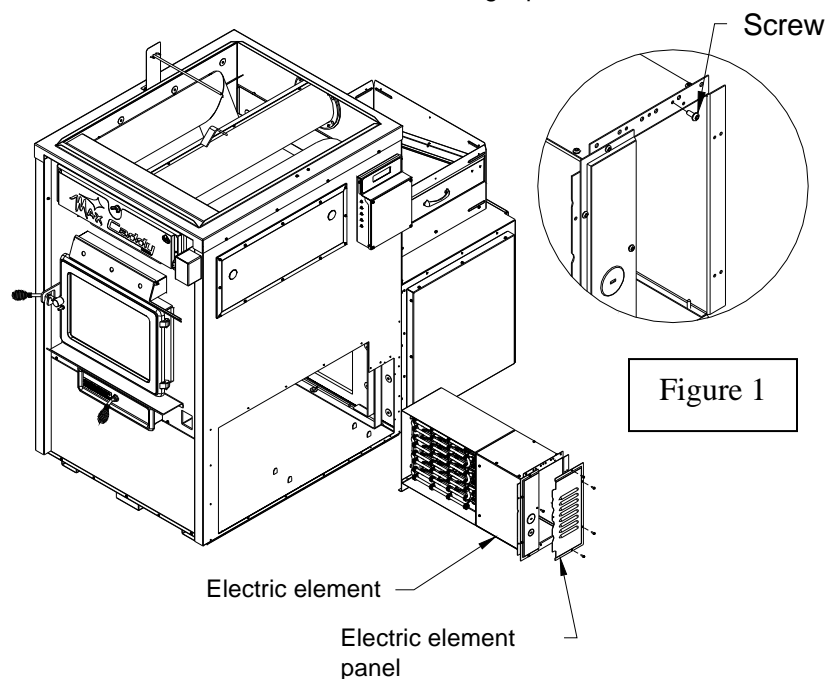

Figure 1
Step 2 : Remove the right panel of the electric element by unscrewing the 5 screws. Keep the screws. Unscrew the screw located at the top surround of the electric element housing (see figure 1). Keep this screw. You will need it for Step 5. Remove the thermostat located inside of the electric element housing. Before installing the housing inside the furnace, it is advised to do the wiring connections. In order to do so, you can remove one of the side panels of the electric element housing. You may now install the electric element inside the furnace.